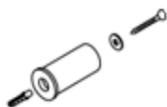

Fig. 2
4. Screw the larger diameter brackets ($\varnothing 26$) as shown in Fig 2.
2. Fix using the screws, washers and plugs provided as shown in Fig. 2.